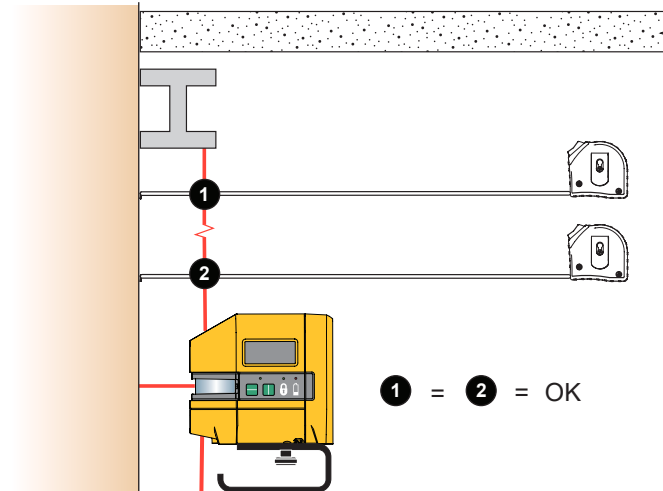

Figure 6. Existing Item Plumb Check
2. Measure the distance from the item to the laser at various distances from the Product. See Figure 6.